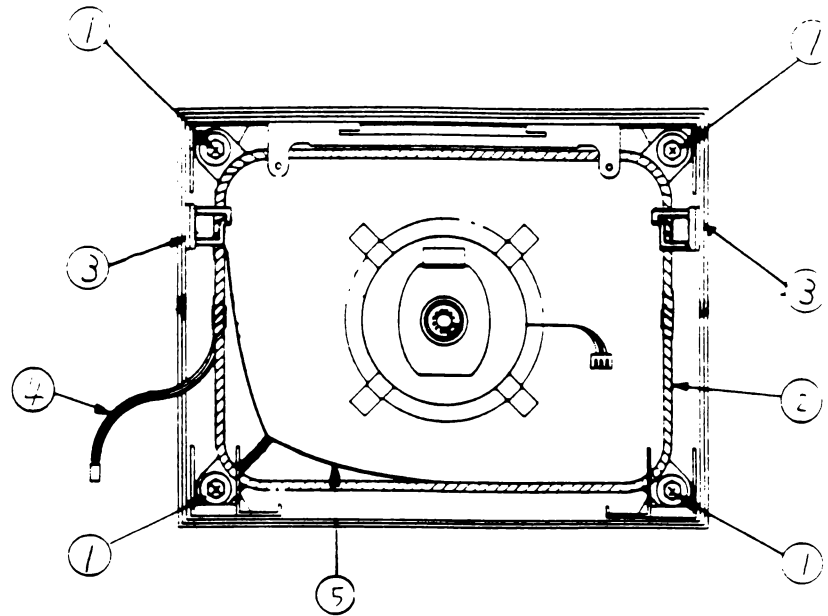

FIGURE 14
2. Replace the silver mesh cable (Figure 14, # 5) with the spring attached. Hook the spring to the lower left corner.
5. Replace the four mounting screws and washers (Figure 14, #1).
6. Replace the degaussing coil (Figure 14, #2) over the CRT so that its connector (Figure 14, #4) is at your left when facing the monitor.